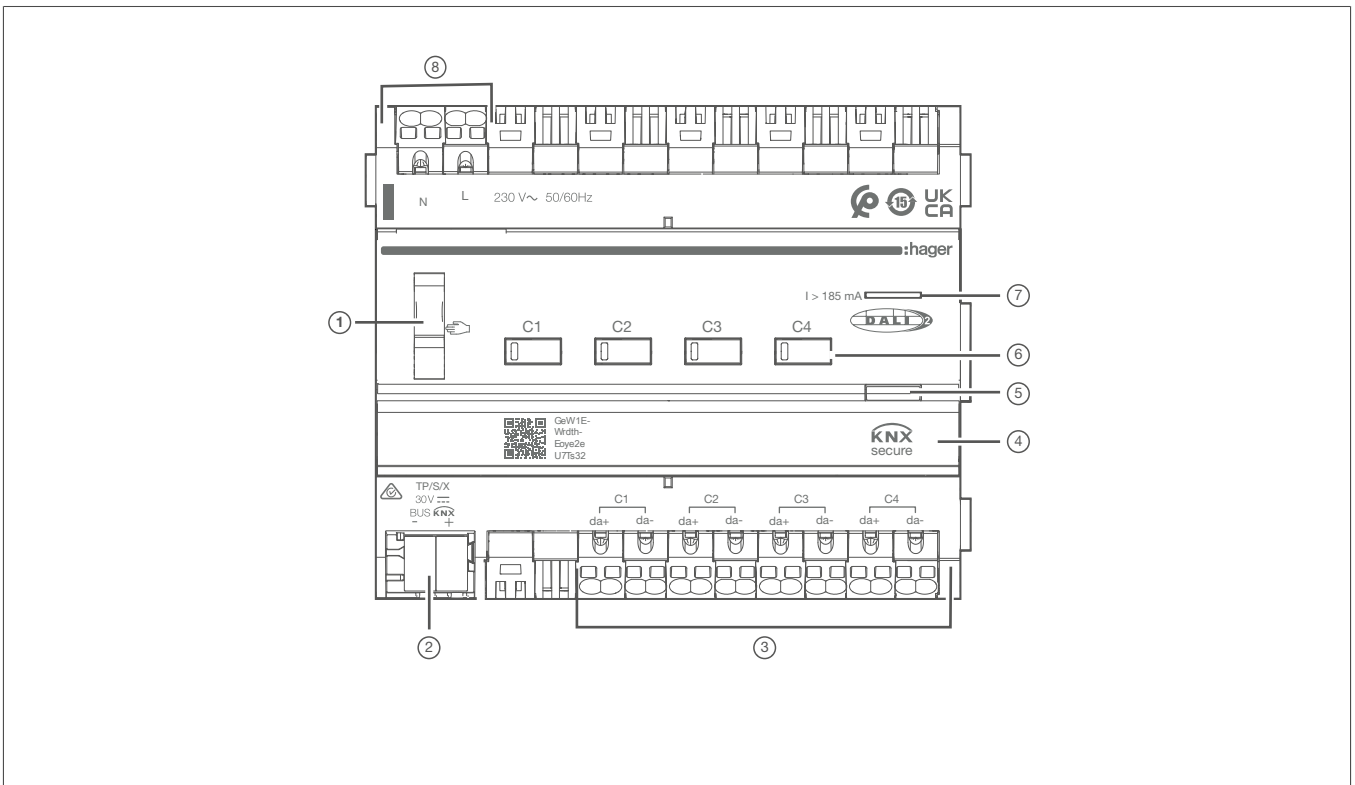

Fig. 2: Design and layout of the device TYAS664D
- Move the switch (Bild 2/1) to position . Manual mode is switched on.
The outputs can be controlled independently of each other via the operation buttons (Bild 2/6).
- Move the switch (Bild 2/1) to position **auto**.
Manual operation is switched off. Operation takes place solely via the KNX bus. The output assumes the position predefined by the bus controller. The switching status is displayed by the status LED of the operation button (Bild 2/6).